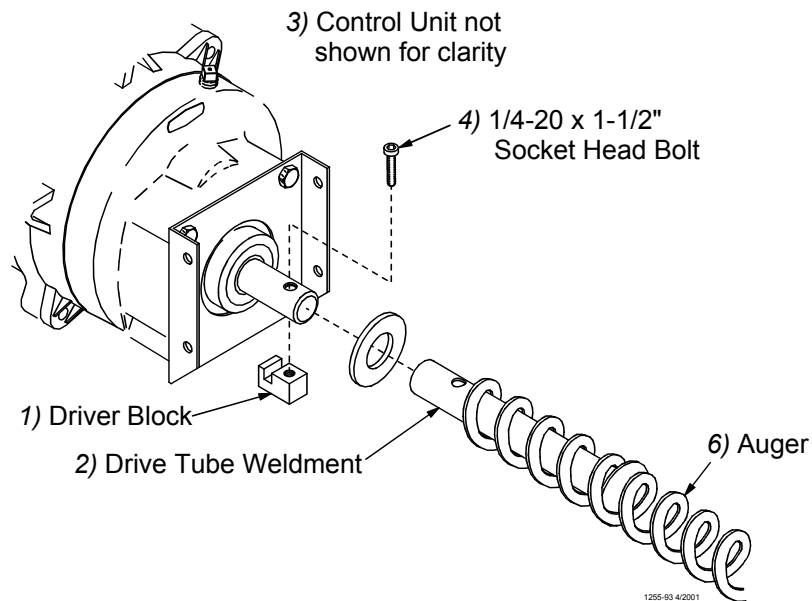

Figure 41. Auger Driver Components
4. Slide the Drive Tube and flat washer over the output shaft on the Power Unit, as shown in **Figure 41**.
6. Turn the Drive Tube Weldment into the auger, then attach to the output shaft of the Power Unit, as shown in **Figure 41**. Use the Driver Block to secure the auger to the Output Shaft.